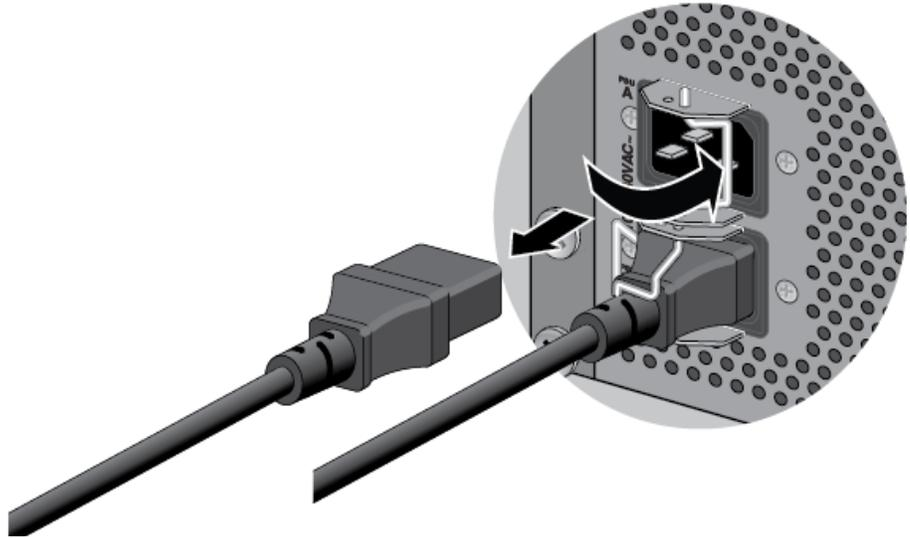

Figure 109. Disconnecting the AC Power Cord from the Chassis
2. Move the retaining clip from the appropriate power cord on the rear panel of the chassis, and disconnect the cord. Refer to Figure 109.